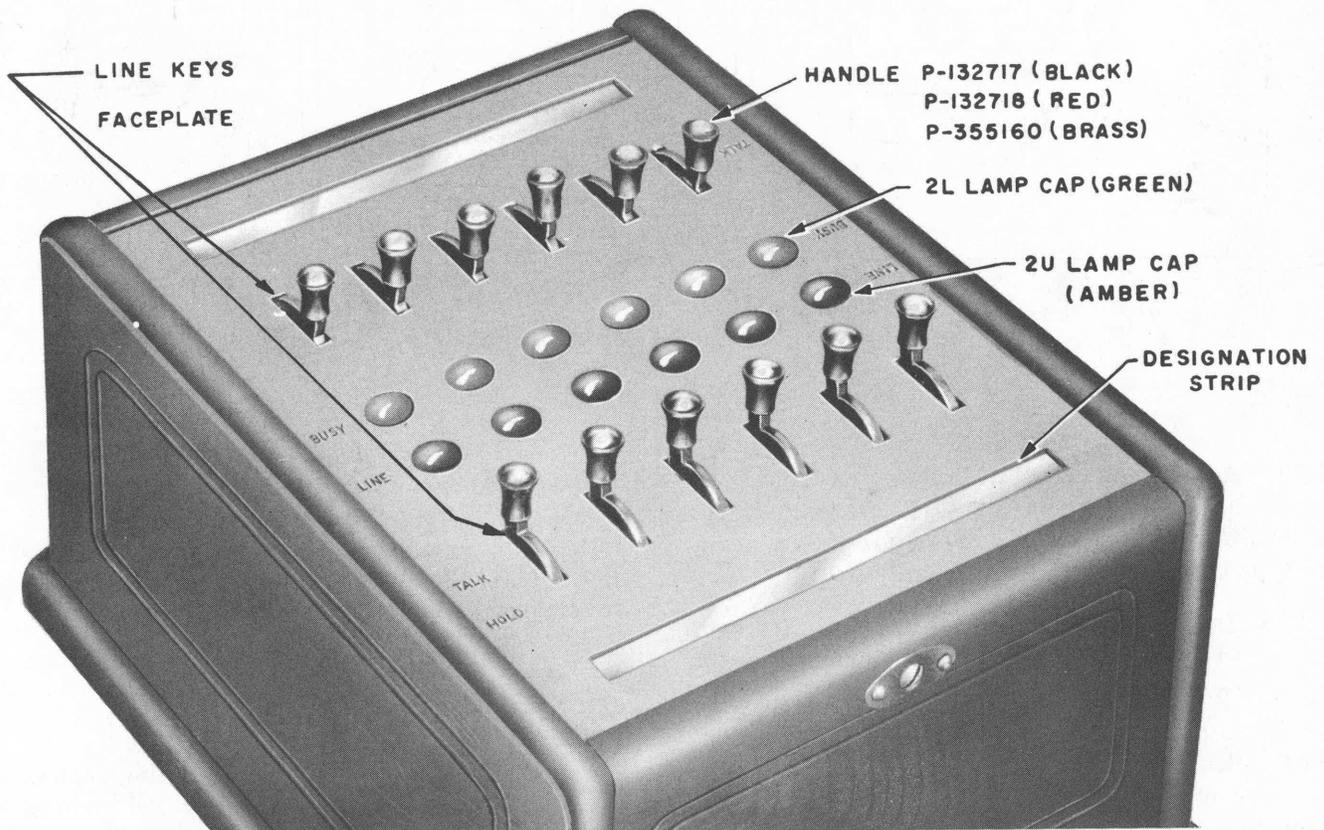

Fig. 1 - 6-line Double-sided Key Box
- Wooden key boxes containing line keys with line and busy lamps (see Fig. 1).